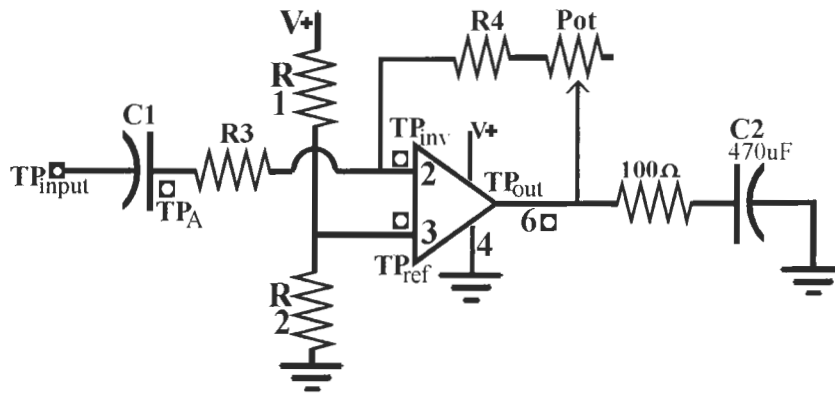

Figure L52-5
1. Use the setup in Figure L52-5 for collecting the following data (see Table L52-1).